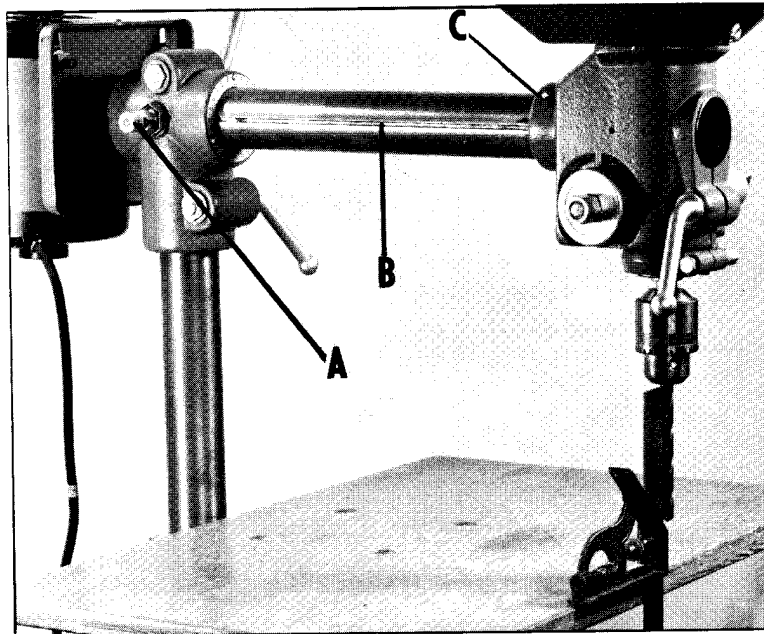

Fig. 19
Check to see if the head is set perpendicular to the table by placing a drill bit in the chuck and a square on the table, as shown in Fig. 19. This adjustment should be performed with the plunger locator (A) Fig. 19, engaged in the milled slot (B) in the horizontal column.
If an adjustment is necessary, loosen the two screws, one of which is shown at (C) Fig. 19, that hold the head to the horizontal column, tilt the head until the drill bit is perpendicular to the table, and tighten the two screws. **CORRECT BELT TENSION SHOULD BE MAINTAINED WHILE THIS ADJUSTMENT IS BEING MADE.**
To adjust belt tension, loosen the two set screws (one of which is shown at (C) Fig. 19) that hold the head to the horizontal column and move the head in or out until correct tension is obtained. Then tighten the two set screws. **NOTE:** At the same time tension is being applied to the belt, the head should be set perpendicular to the table surface as explained in the previous instructions.